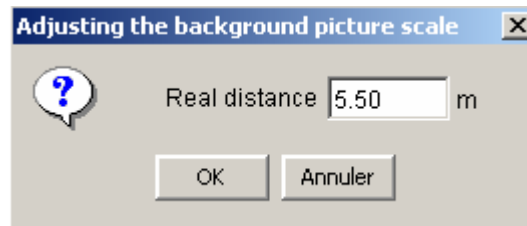

Figure 19: adjusting background picture to scale
- Adjusting the picture to scale: this option enables to adjust the scale of the background picture to the one of the graphical view (it is available only if a background picture is active). After selecting this option, you are requested to draw a reference segment on the picture (horizontal, vertical or any direction). A dialogue box then opens (Figure 19) and requests the "real" length of this segment. The size of the picture is then adjusted, and it can be placed wherever wanted.